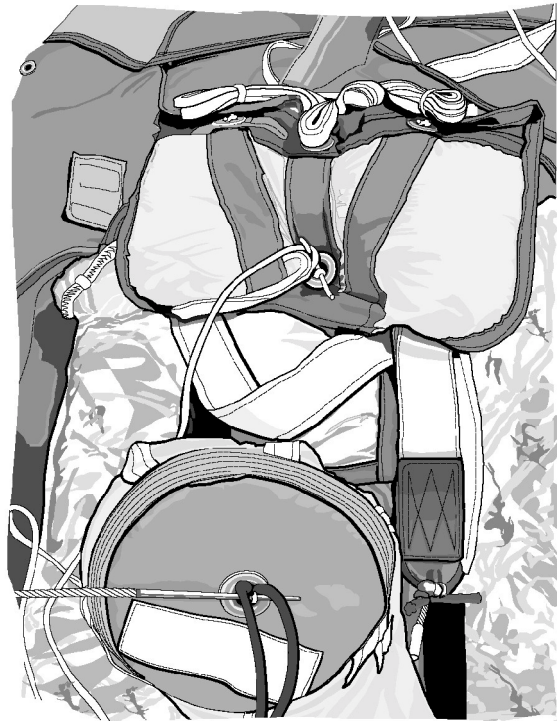

Figure 28. Pilot Parachute Placement
h. Starting at the top, fold pilot chute netting and canopy around pilot chute crown. Fold canopy and netting along sides of crown to the width of the drogue deployment bag. Stow in indentation between drogue and pilot chute crown (Figure 28).